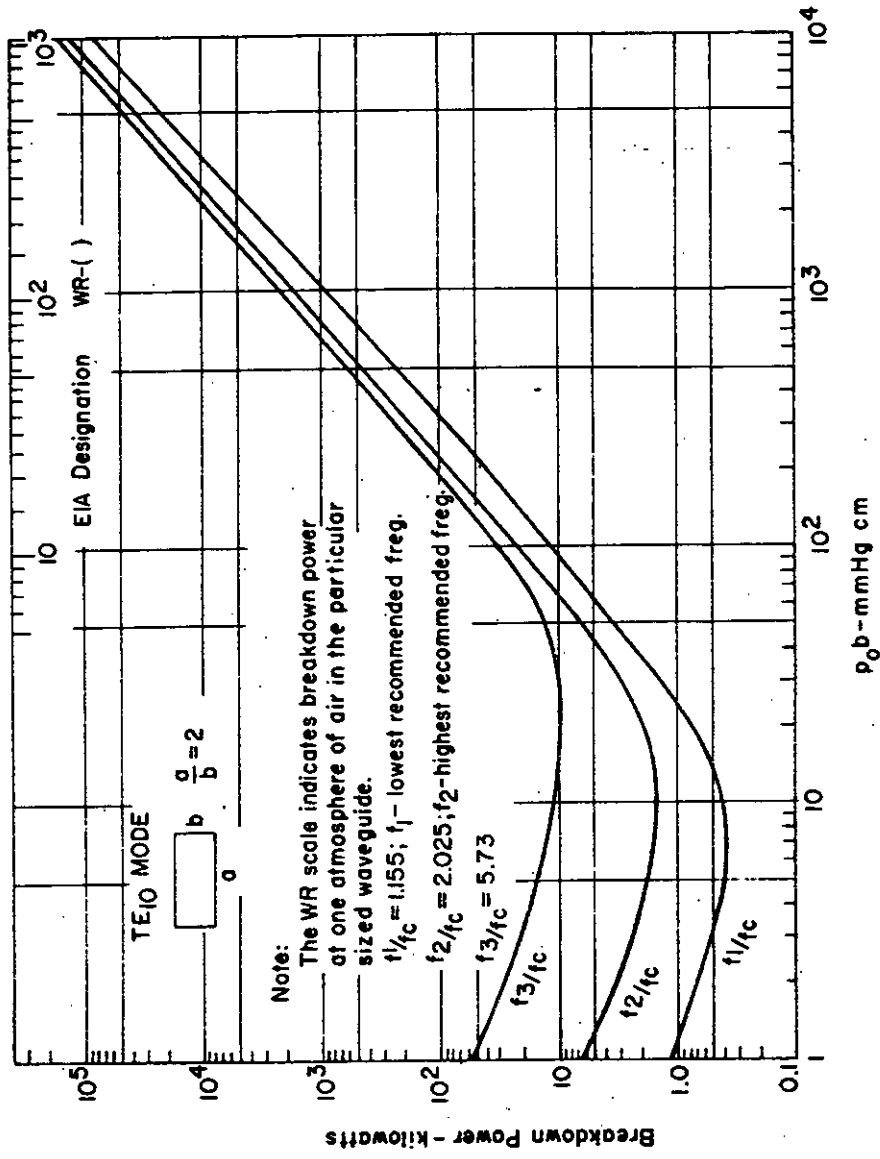

FIGURE 6.6. Breakdown power for air filled standard rectangular waveguides (a/b = 2) (continuous signal).
6.2.9 Power handling capabilities of rectangular waveguides. Figures 6.6 through 6.9 describe the power handling capabilities of all types of rigid rectangular waveguides. Graphical data is given on waveguide power handling capability vs. waveguide dimensions, and on waveguide power handling capability vs. waveguide pressure.